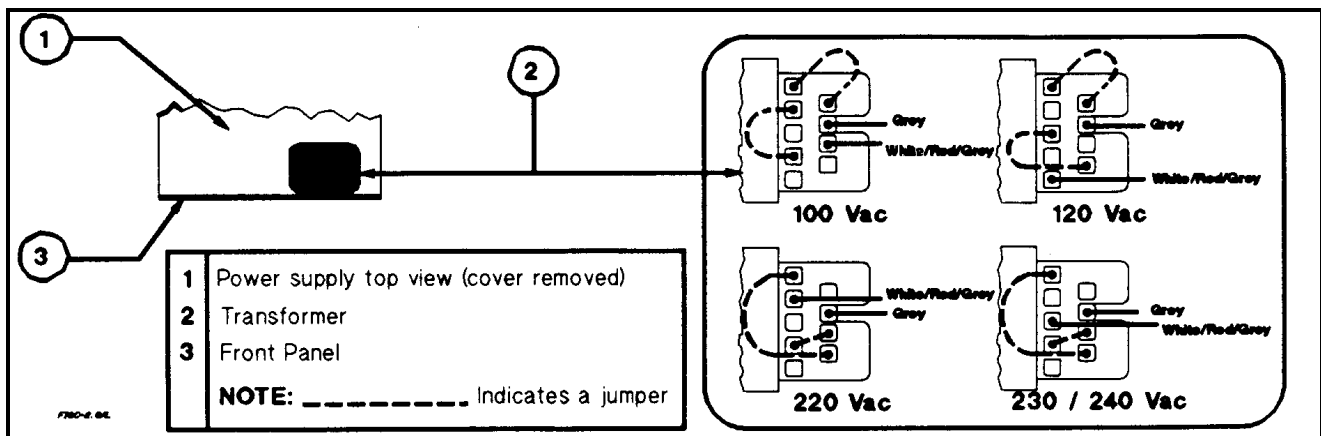

Figure 2-2. Agilent SAS Line Select Jumpers
4. Slide the dust cover back far enough to expose the line select jumpers (see figure 2-2).